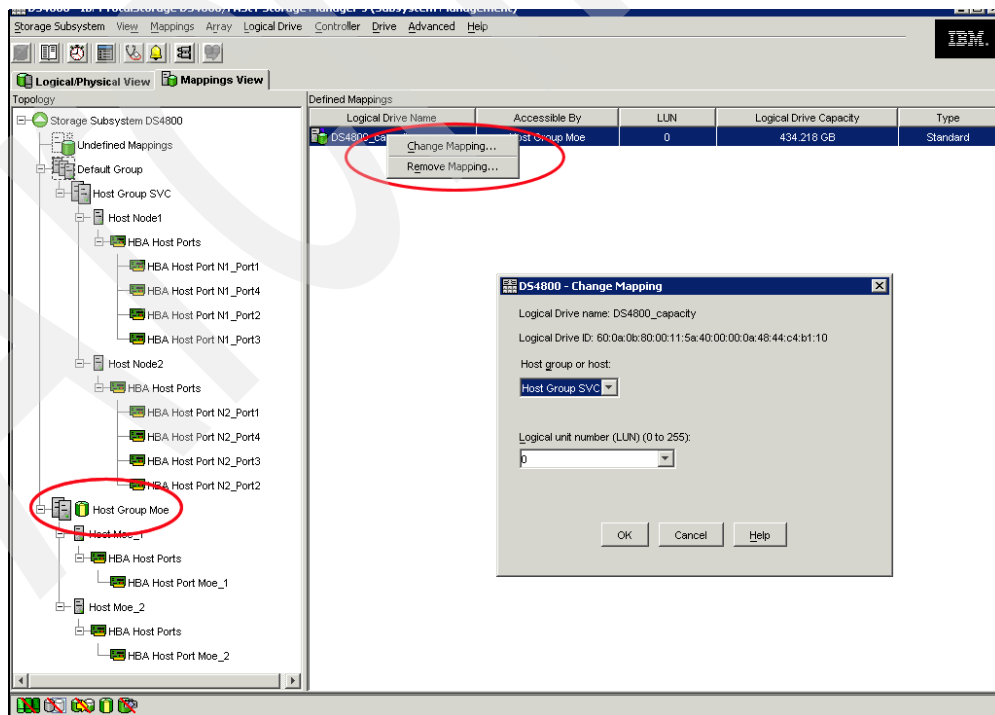

Figure 4-11 Assigning LUNs to the SVC on the DS4000
6. Remap the LUN. Figure 4-11 shows changing the mapping of the LUN from the host to the SVC. Make sure that the LUN ID is the same as the directly connected LUN ID.